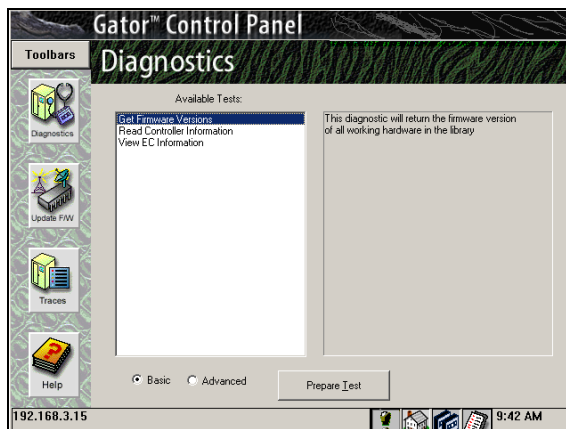

Figure 9-11 Select Reset Picker.
4. From the advanced Available Tests list, select **Reset Picker** (Figure 9-11).